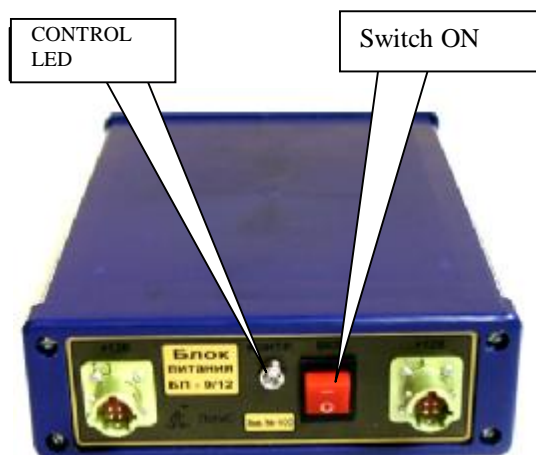

Fig. 3. Control board BP-9/12.
3. Switch on power supply BP-9/12 (further PC) see Fig.3. LED indicator (“Contr”) begins to work at once. In order to decrease power consumption light indication works 1 sec. with interval 3-4 sec. As soon as threshold voltage of discharging of the battery takes place light indicator starts to blink often with interval 3-4 sec. Moreover short sound signal reminds each 10 min. about the fact that the power block is switched on.